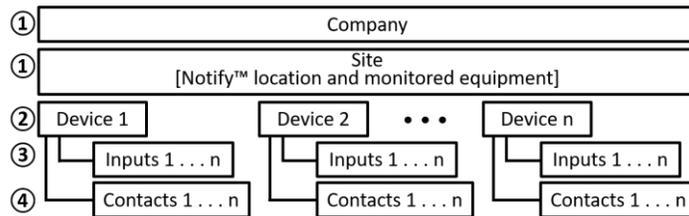

Figure 1
The Notify™ Wireless Pumping System Alarm is setup in 4 steps shown in Figure 1 by ① naming the site and ② defining one or more logical Devices (groups of sensors) and ③ the physical sensor inputs associated with it. One Notify™ can support 12 dry-contact (bi-state) sensors and 1 analog transducer. Those 13 inputs can be arranged in any combination of input arrangements to define a Device. And in turn, ④ each Device will have an associated group of notification contacts for alarms generated by its inputs.
Each time an Input is configured, Notify™ requires the Input be assigned to an existing or new Device. A drop-down menu will display existing Devices or give the option to add a new Device. Refer to Figure 1 above and the example here.